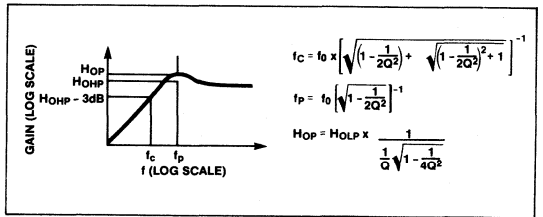

Figure 3. Highpass Filter Terminology
- H_{OHP}**: The gain in V/V of the highpass output at f = f_{CLK}/2. See Figure 3.